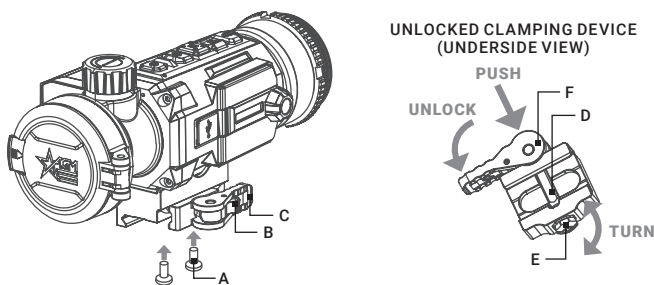

FIGURE 2-8. MOUNT
A Picatinny/Weaver mount is secured to the Secutor LRF-C with two screws (Fig. 2-8, A). The recommended tightening torque for the fixing screws is 4-5.3 Nm (35.4-46.9 in-lbs).
1. Unlock the clamping device of the clip-on mount by pushing down on the lever holder (Fig. 2-8, B) and unlocking the lever (C).
2. Install the clip-on on the Picatinny/ Weaver rail so that the stop (D) slides into the transverse slot on the rail.
3. Affix the clip-on to the rail by locking the lever (C).
2. With the clamping device unlocked (as shown in Figure 2-8), push the cam (F) towards the arrow, which will cause the nut (E) to slide out of its hole.
3. To tighten/ loosen the clamping device, push down on the cam (F) and turn the nut (E) CW/ CCW respectively, in one-two increments (see note below). Much like when the cam (F) is released, backward-moving spring will cause the nut (E) to slide back into its hole.